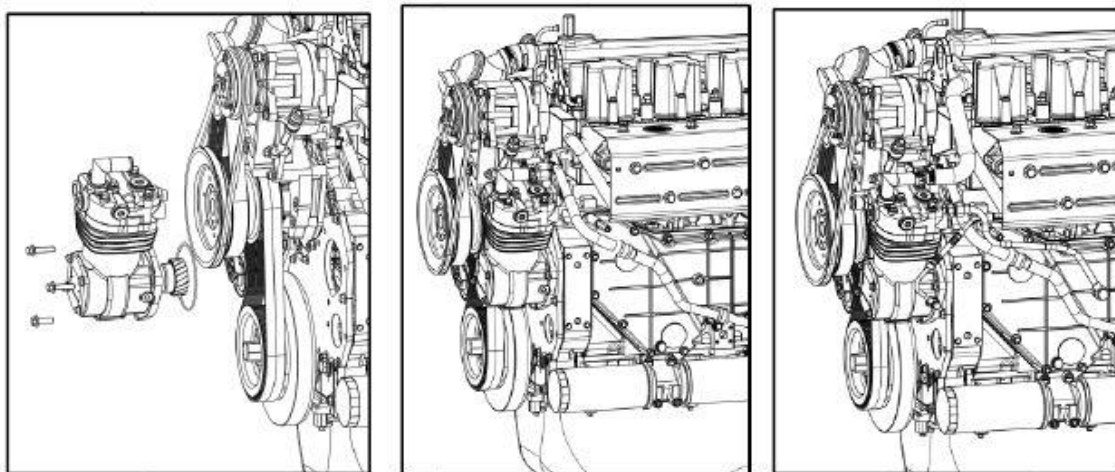

Fig. 4-82 Assembly of air compressor and its pipelines
- (1) Place the O-shape seal ring in compressor ring groove. Make sure compressor main axis is perpendicular to engine timing gear housing fitting surface, and push the compressor into the mounting hole gently, ensure the helical gears are normally engaged and air compressor flange face should be parallel with engine fitting surface, loose-fit the compressor with three M10 hexagon bearing surface toothed bolts, and tighten the bolts with 13mm open end wrench (or double offset ring spanner).
- (2) Install air compressor water inlet pipe, water outlet pipe, oil inlet pipe and intake pipe, fix the pipes with clamps. As shown in Fig. 4-82.